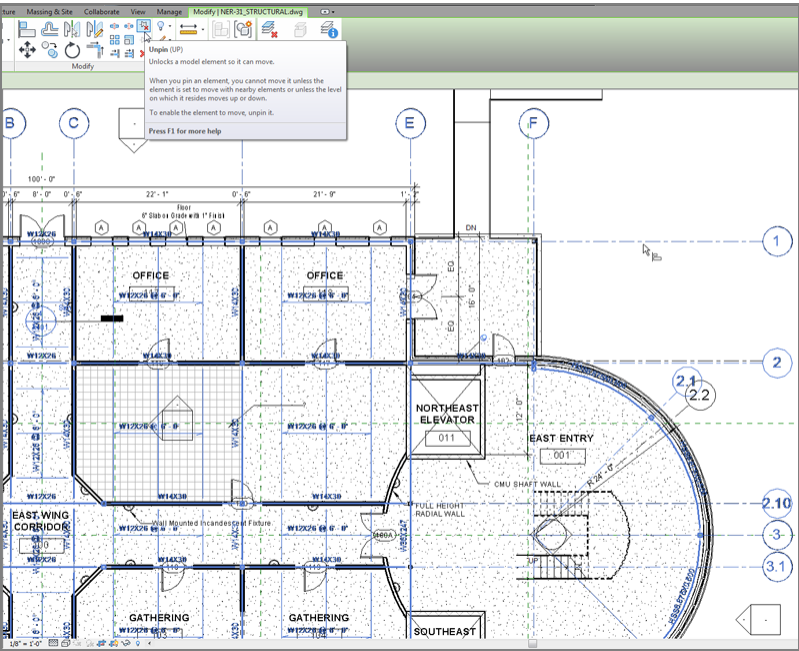

FIGURE 20.20: Unpinning and aligning the reference
16. On the View Control bar, click the Wireframe button so you can see the AutoCAD structure, as shown in Figure 20.20.
17. As you can see, the underlay isn't positioned correctly. Select the linked CAD, and unpin it (see Figure 20.20).